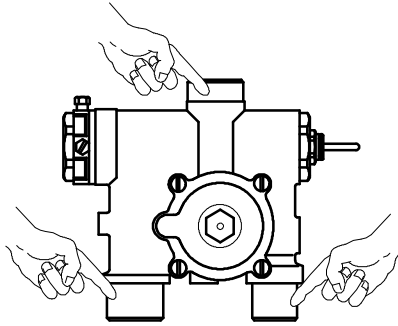

fig. 30
- 3 Completely loosen the connections to the hydraulic circuits indicated in fig. 30.